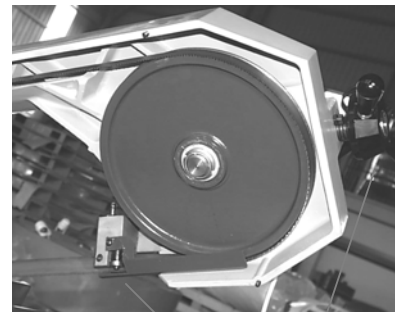

Fig.9 C F
- 2.The saw blade (A) should also ride between and lightly touch the two blade guide roller bearings (E) and (F) (fig. 9) The front bearing (E) (fig. 9) is mounted on an eccentric, and can easily be adjusted suit blade thickness by loosening set screw (G) and turning shaft (E).
- 3.The carbide blade guides (H) (fig 9) should also be adjusted so they lightly touch the blade by loosening screw (K).
4. The blade guide roller bearings, carbide guides and backup bearing on holder (fig 9) should be adjusted in the same manner.
2. Move the blade guide arm to the right.(Fig.9).
3. Disconnect the machine from the power source. Loosen cover screw, remove cover (A), open the cover (B), remove cover (C) , then clean the chips and dirt inside the machine.
4. Release blade tension (F) (fig 9) by turning the blade tension hand-wheel counterclockwise.